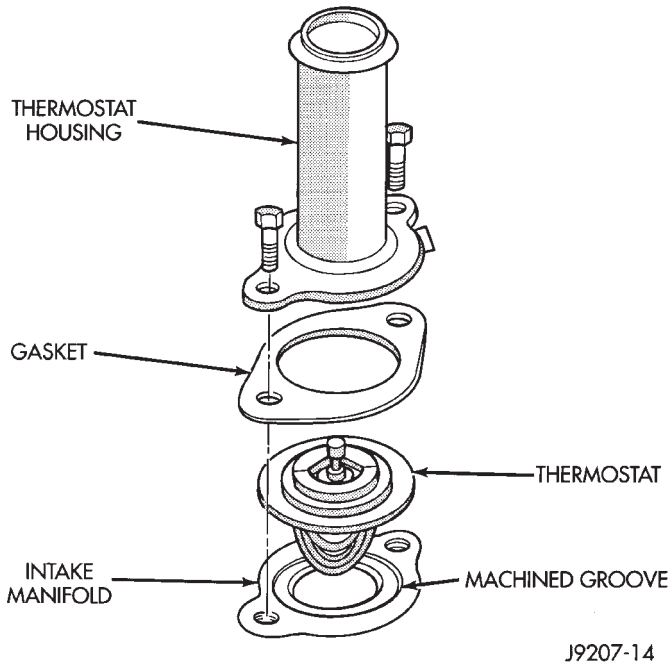

Fig. 40 Thermostat—5.2L/5.9L Engines
(6) Position wiring harness (behind thermostat housing) to gain access to thermostat housing.
(7) Remove thermostat housing mounting bolts, thermostat housing, gasket and thermostat (Fig. 40). Discard old gasket.
(1) Clean mating areas of intake manifold and thermostat housing.
(2) Install thermostat (spring side down) into recessed machined groove on intake manifold (Fig. 40).
(3) Install gasket on intake manifold and over thermostat (Fig. 40).